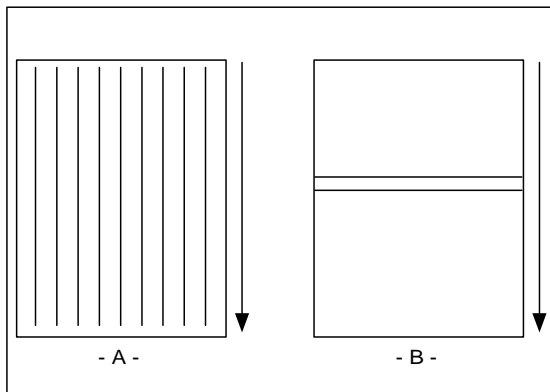

Figure 40
3. Straight waves in output (Fig. 40 A).